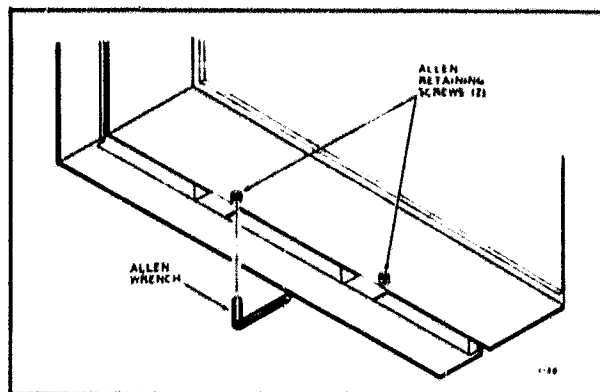

FIG. 9—INSTALLATION LOCKING COVER SCREWS ASSEMBLY.
7. If the thermostat provides optional locking cover assembly, start the 2 Allen locking screws in the cover with the wrench provided (Fig. 9).